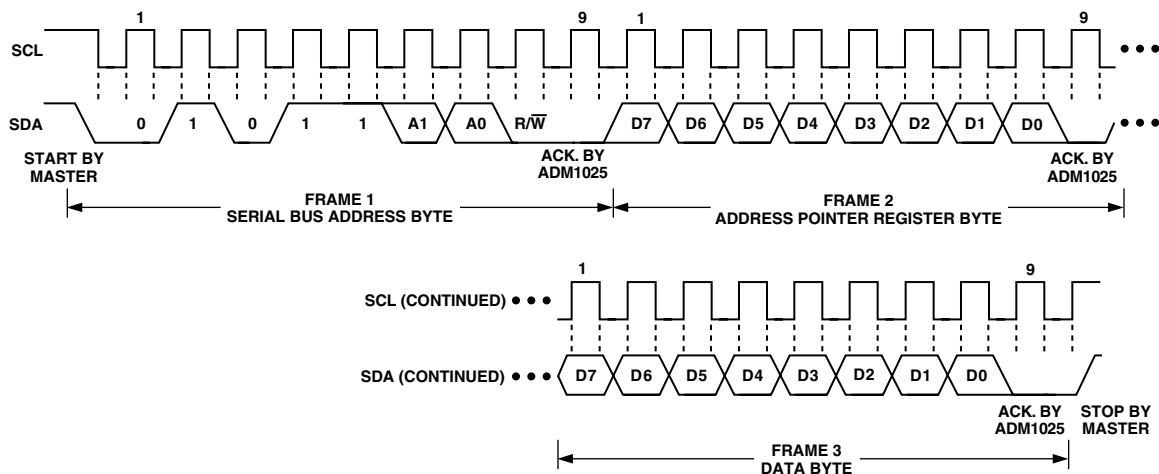

Figure 2a. Writing a Register Address to the Address Pointer Register, then Writing Data to the Selected Register
This is illustrated in Figure 2a. The device address is sent over the bus followed by R/W set to 0. This is followed by two data bytes. The first data byte is the address of the internal data register to be written to, which is stored in the Address Pointer Register. The second data byte is the data to be written to the internal data register.
2. In Figures 2a to 2c, the serial bus address is shown as the default value 01011(A1)(A0), where A1 and A0 are set by the three-state ADD pin.